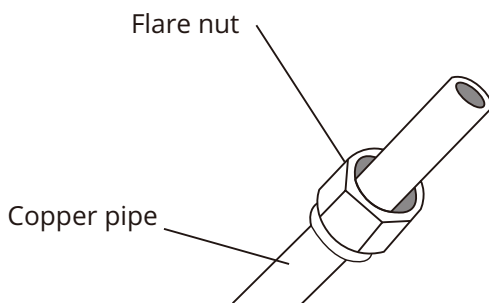

Fig 5.3
3. Place flare nuts on both ends of pipe. Make sure they are facing in the right direction, because you can't put them on or change their direction after flaring. See **Fig. 5.3**.